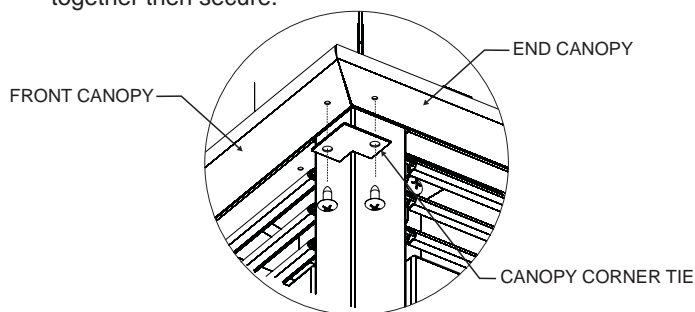

Figure 5a
Prior to installing the Peninsula mantel, install the 3-piece canopy and End Shield in conjunction with the (4) Mantel Corner Brackets (included with the Mantel Top) as shown in **Figure 5a**. Refer to the instructions included with the EMPT Mantel Top for additional installation details.
4. Place the other (2) Mantel Corner Brackets on top of the Front and Rear Canopies near the open end of the fireplace and loosely install a #10 x 1/2" screw through the corner bracket and canopy, then into the pilot holes provided. Do not tighten the screws.
7. To finish canopy installation, install two (2) canopy corner tie brackets at the underside of the canopy corners as illustrated by **Figure 5a**. Use a Phillips screwdriver to install two (2) #8 x 1/2 black sheet metal screws to attach each corner bracket. Before tightening screws, align the canopy mitered corners together then secure.